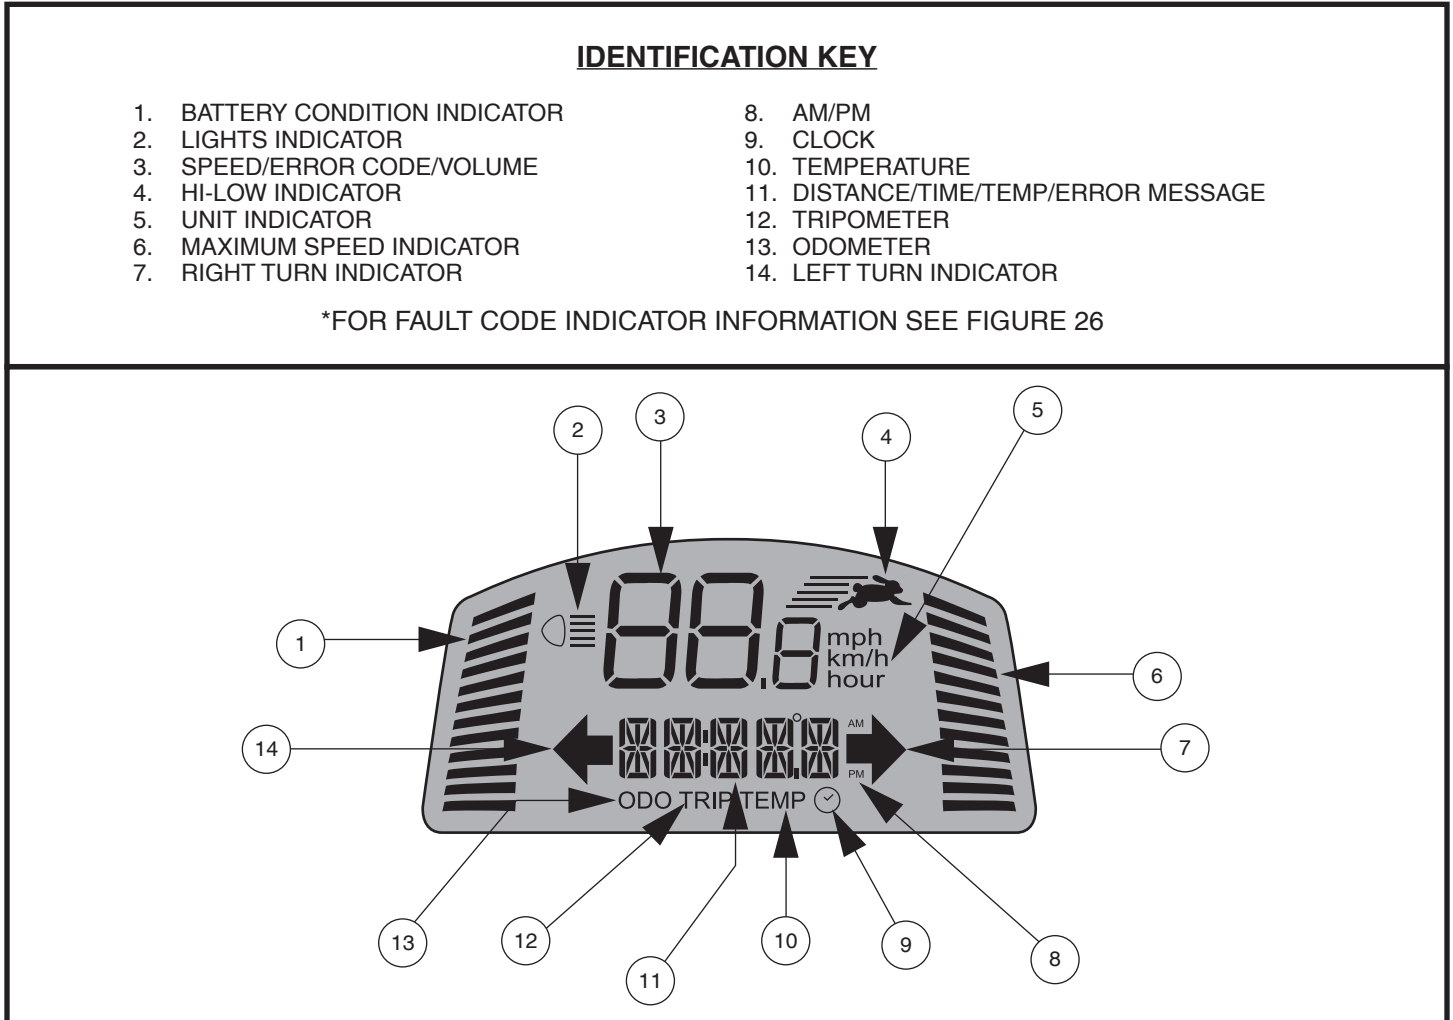

Figure 5. LCD Screen - Console Style B
- Press the High-Low button once to set the speed adjustment to High. The High-Low indicator will display on the LCD screen. **See figure 5.** Using this setting in conjunction with the speed adjustment buttons will allow the scooter to achieve speeds up to the maximum preprogrammed speed for the scooter.
These adjustment buttons enable you to pre-select and limit your scooter's speed. This is indicated by the maximum speed indicator on the LCD screen. **See figure 5.**
NOTE: The more bars shown on the maximum speed indicator, the faster your pre-selected maximum speed will be. See figure 5.
The LCD control panel offers easily intuited feedback information via the LCD screen. See figure 5. The LCD screen may also be used during the set-up (activation) of the various control panel settings. See chart 1.